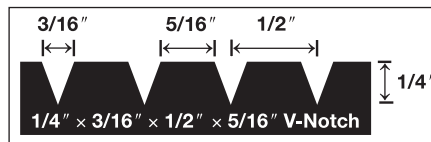

Figure 2
- V-Notch trowel (Figure 2) or other adhesive manufacturer's trowel
- Spread sufficient amounts of the recommended adhesive with the recommended trowel (Figure 2) or other adhesive manufacturer's trowel in an area that can be covered in 60 minutes (see adhesive information).